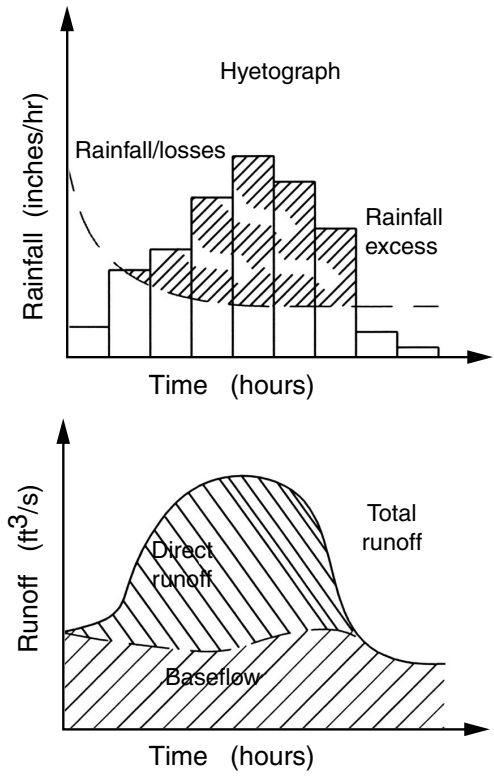

FIGURE U-3 Unit hydrograph from runoff hydrograph.
**Unit hydrograph method** A procedure to establish the total runoff hydrograph of a storm in four steps: (a) Determine the rainstorm hyetograph. (b) Determine the rainfall excess over the storm duration by subtracting rainfall losses from the hyetograph. (c) Convert rainfall excess (e.g., inches/hour) into direct runoff (e.g., cubic feet per second). (4) Add baseflow to direct runoff to obtain total runoff over time (e.g., cubic feet per second). *See* Figure U-3.